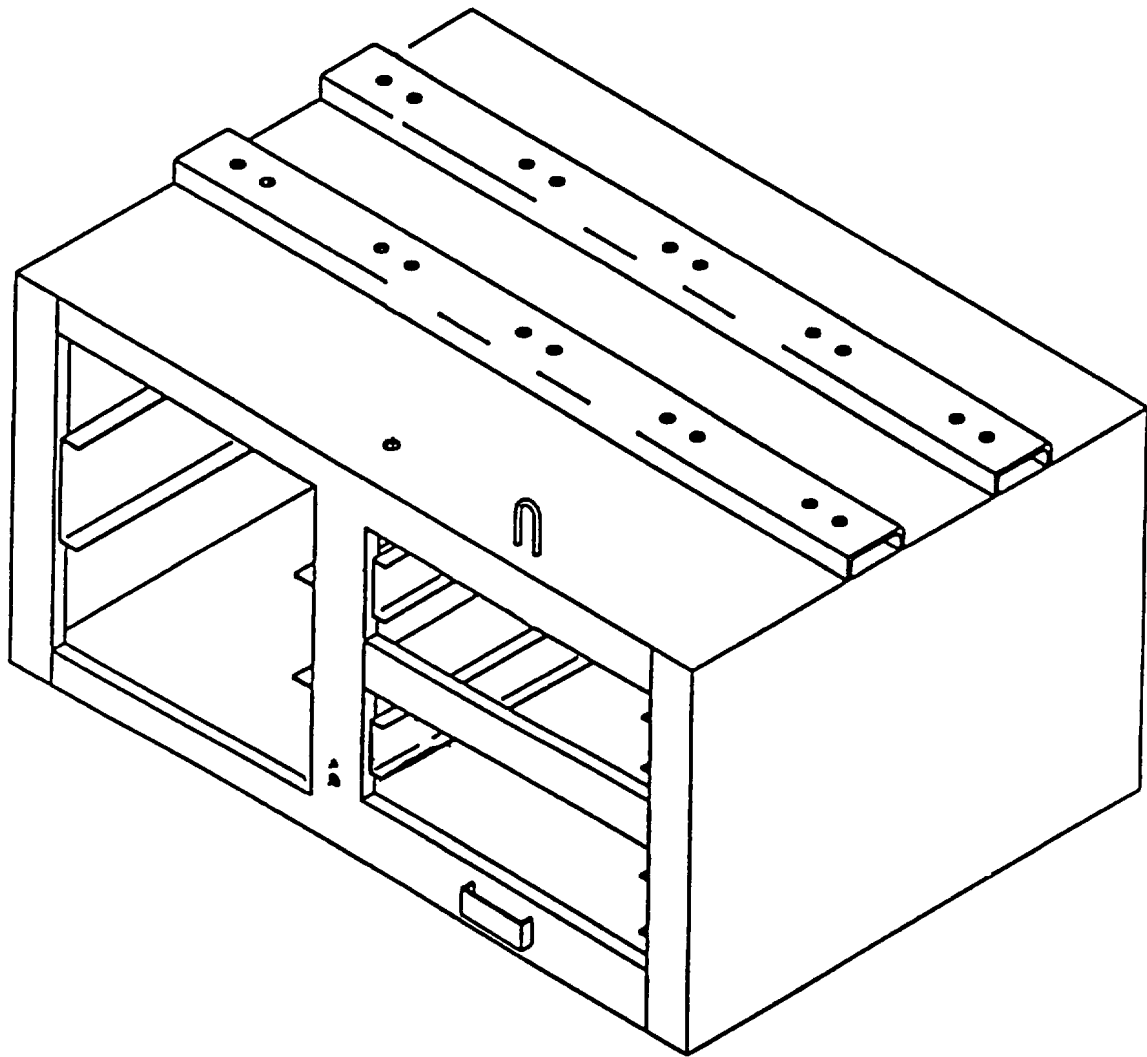

Figure 5-7. Reel Cabinet Frame
- a. Repair. (Refer to Figure 5-7).